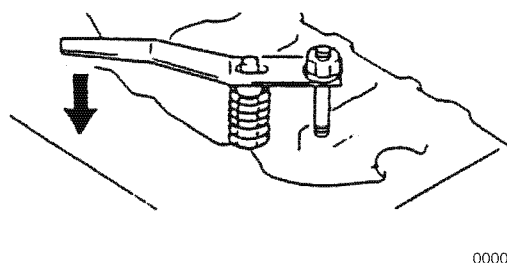

Figure 6-48
2. Using the valve spring compressor tool, compress one of the valve springs **(Figure 6-48)**.